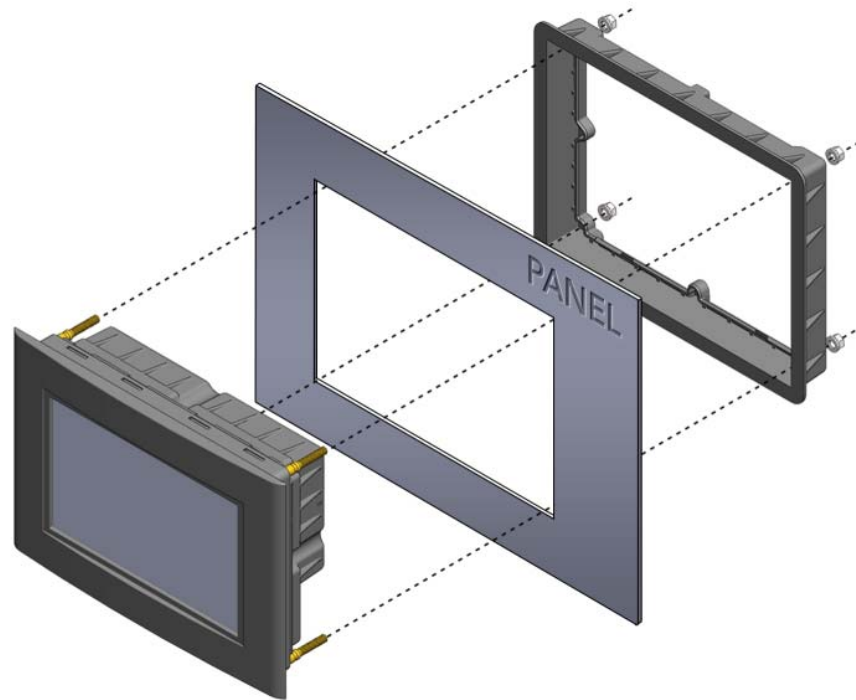

Figure 40
3. On the back of the panel, align the terminal mounting ring holes with the mounting studs, and place the mounting ring against the back of the panel. Refer to Figure 40 for the location of the mounting studs.